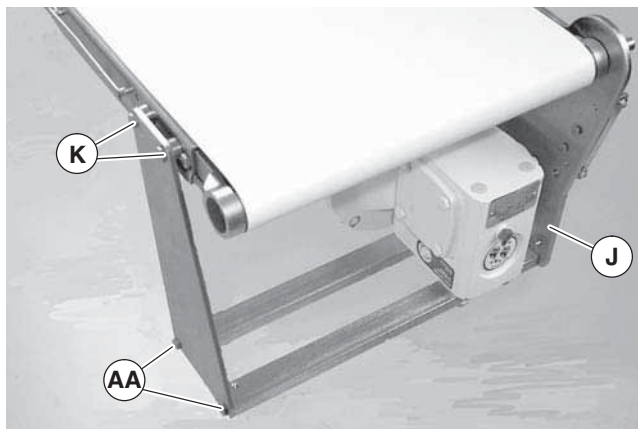
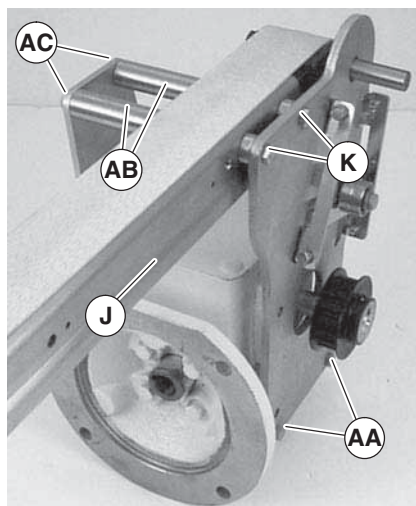
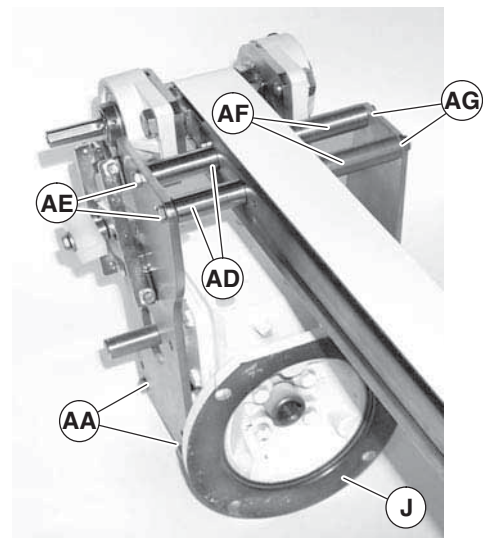

Figure 4
Figure 5
Figure 6
7200 Series 4" (102mm) and wider mounting assembly shown. 2" (51mm) and 3" (76mm) wide mounting assemblies include two spacer tubes (Figure 5, item AB) and two long M6 screws (AC).
1. For 4" (102mm) and wider conveyors, loosen two screws (Figure 4, item AA). Attach bottom mount assembly (J) to conveyor with four screws (K). Tighten screws (K) and (AA) to 92 in-lb (10.4 Nm).
2. For 2" (51mm) and 3" (76mm) conveyors, loosen two screws (Figure 4, item AA). Attach bottom mount assembly (Figure 5, item J) to conveyor with two spacer tubes (AB) and screws (AC), and two screws (K). Tighten all screws to 92 in-lb (10.4 Nm).
The lengths of spacer tubes (Figure 6, item AF) and hex head cap screws (AG) are based on conveyor width. The proper lengths are provided with the drive mounting package.
1. Loosen four screws (Figure 4, item AA) and (Figure 6, item AA). Attach bottom mount assembly (J) to conveyor with two 1.758" (44.7mm) long spacer tubes (AD) and M6 x 65mm hex head cap screws (AE), and two spacer tubes (AF) and screws (AG). Tighten all screws to 92 in-lb (10.4 Nm).